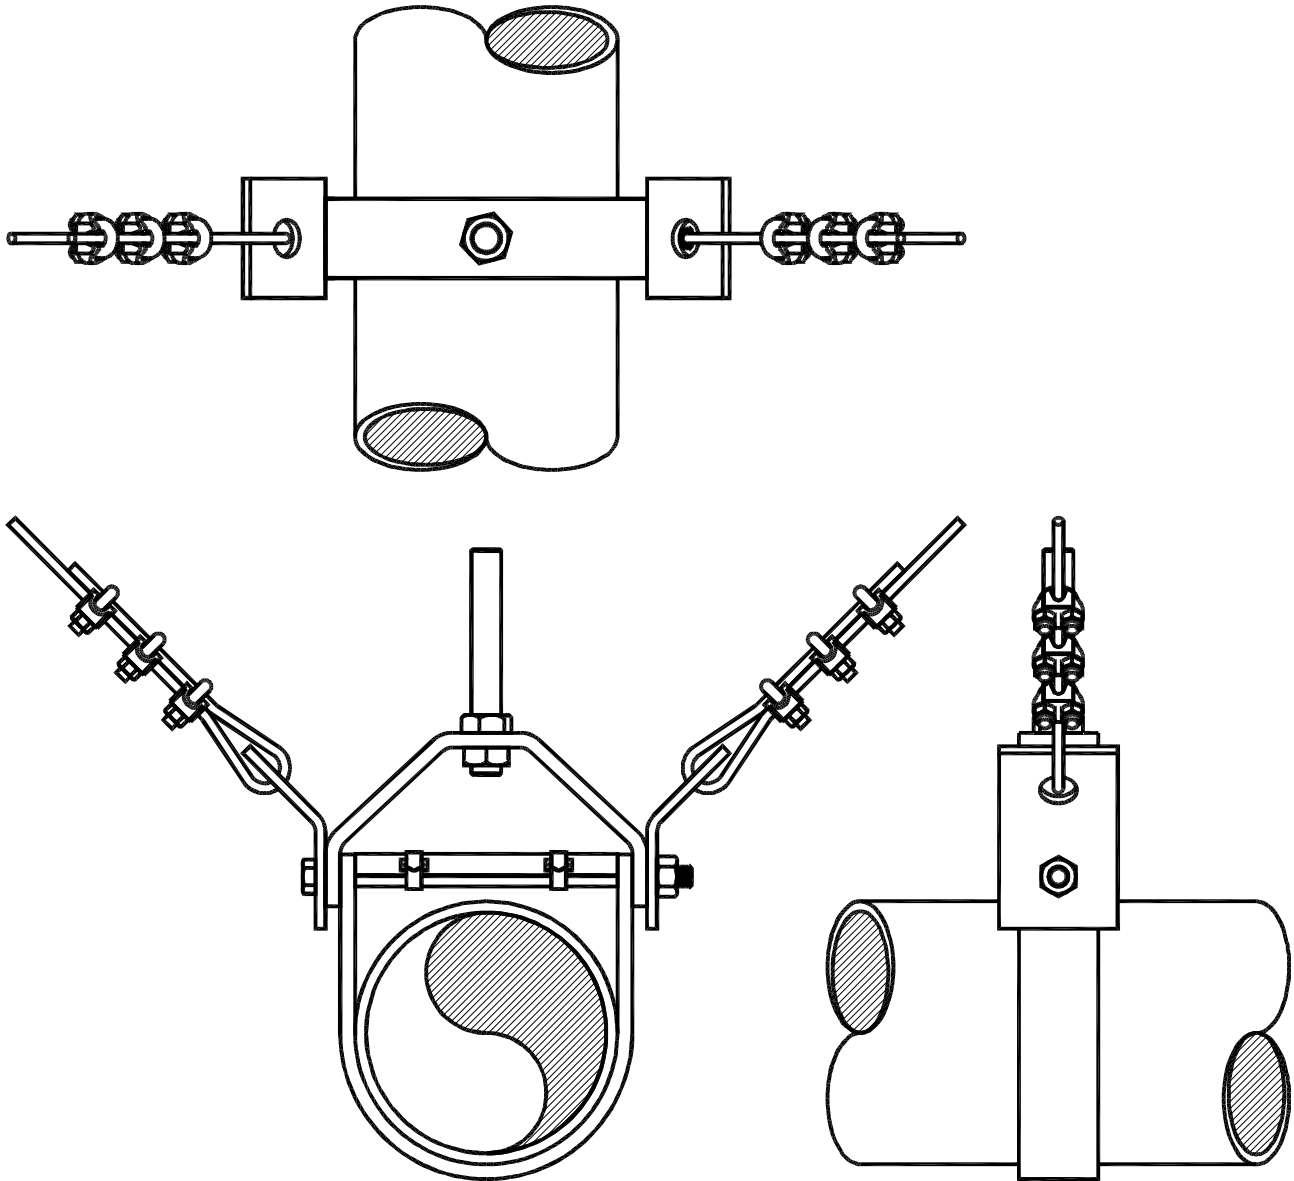

Figure I6-28; KSCC Brackets Attached to the Side of a Standard Clevis Hanger – Transverse (T) Restraints Only
For transverse (T) restraints only, the KSCC brackets may be attached to the side of a standard, MSS Type 1, clevis hanger or to the hanger rod for a standard clevis hanger as shown in Figures I6-28 and I6-29 respectively.